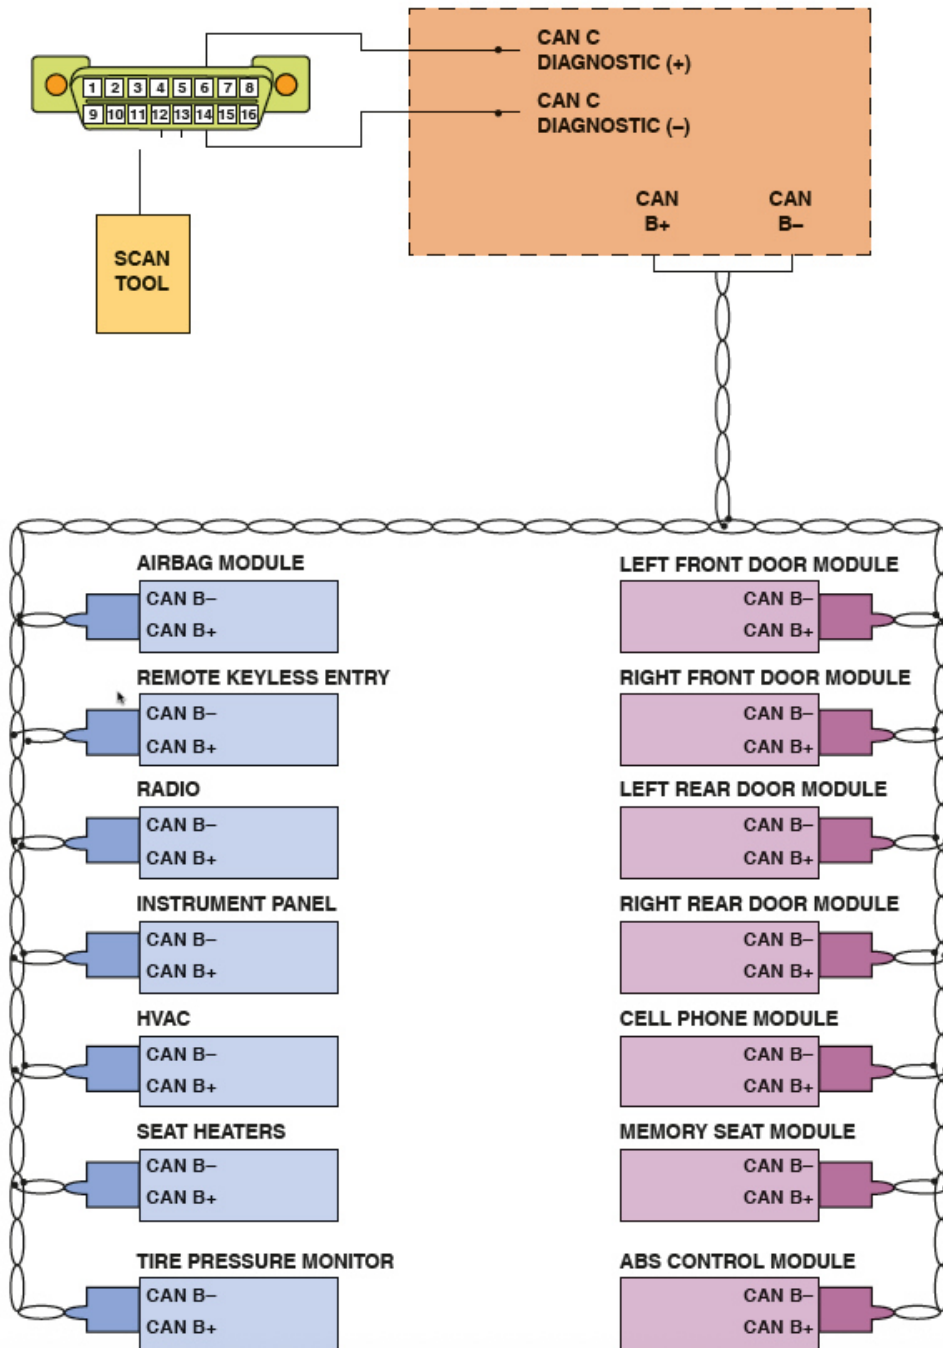

Figure 28. Controller area network (CAN) communication system.
- Class C. High-speed networks, meaning 125,000 to 1,000,000 bps, are generally used for real-time powertrain and vehicle dynamic control. High-speed BUS communication systems now use a controller area network (CAN). Figure 28.